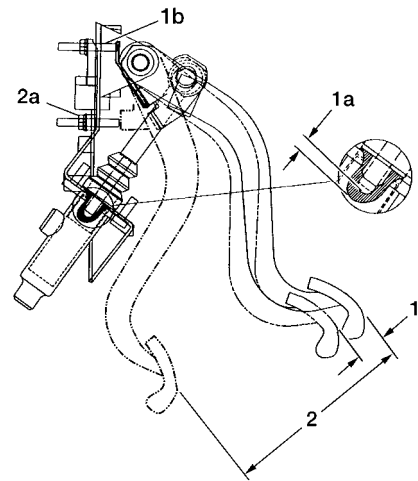

Fig. 1: Clutch
Slave cylinder stroke (A) is 29 ± 1 mm (1.14 ± 0.04 in.). The clutch pedal throw (2 - Figure 1) gives the stroke. The lower adjusting screw (2a) limits the pedal throw and thereby the clutch slave cylinder stroke.